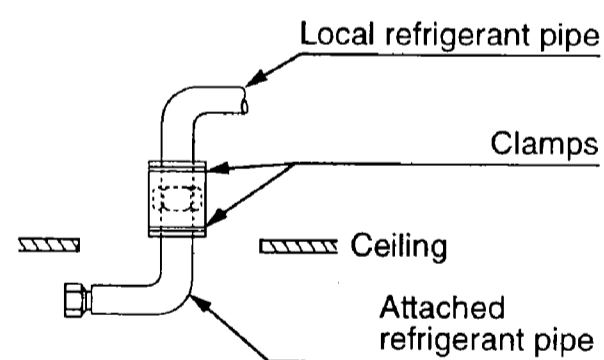

Fig. 3
3) Connect the attached refrigerant pipe to the local refrigerant pipe. Wrap the insulation for fitting of the air conditioner around the connection of these pipes. Secure the tube with the clamps. (Fig. 3)